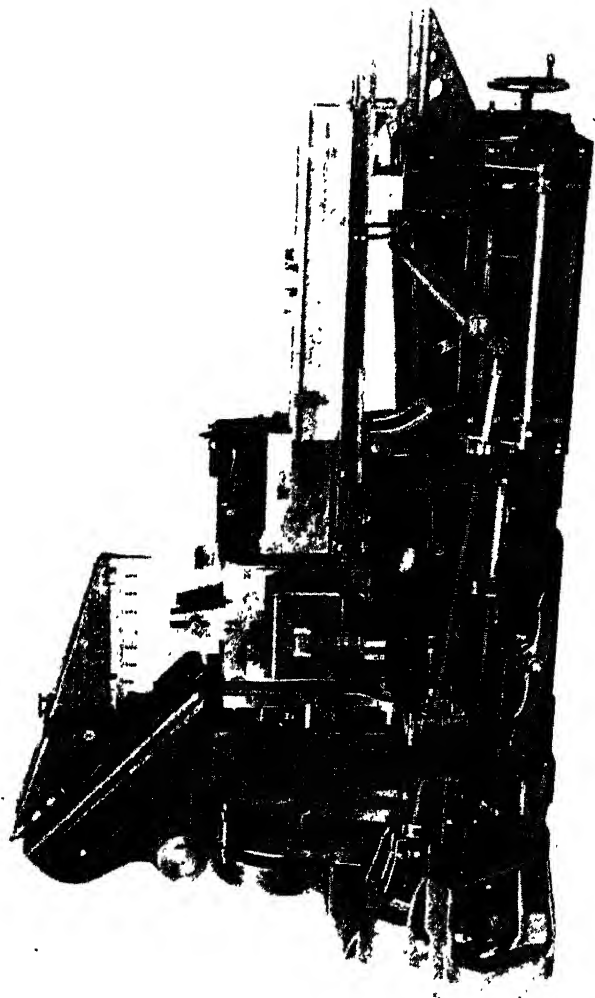

FIG. 24. "SEYBOLD" CONTINUOUS AUTOMATIC BOOK-TRIMMER.
*Book Trimming Machines.* In the "Seybold" Continuous Automatic Trimmer (Fig. 24), the books are placed in a trough with the backs downwards, and passed along to a square revolving block, which has four cutting beds; here they are automatically clamped. The first turn of the block brings the side holding the books to the top, where the first knife shears the front edge. The next turn brings the pile to the far side of the machine, where two knives shear the head and tail. The third turn brings the pile to the bottom, where the books are dropped on to a belt conveyor. This four-cycle, continuous movement makes possible a normal cutting-speed of 1,440 6-inch piles an hour; but this speed can be increased or reduced to suit the feeding. The ordinary operation of the machine requires only three people: one to place the untrimmed books in the trough, one to jog and feed them, and one to remove the trimmed books from the belt conveyor. The shavings are removed by a suction-blower. The machine as regularly built will trim all sizes from 4 inches by 6 inches to 12 inches by 16 inches. Sizes outside this range may be provided for by special construction.